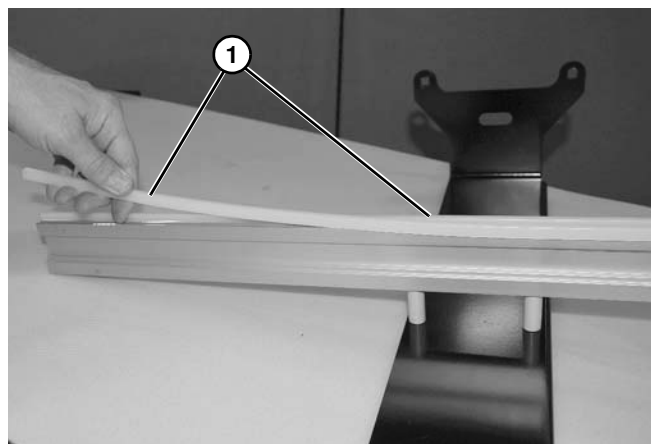

Figure 62
7. Install wear strips (**Figure 62, item 1**) on return support.